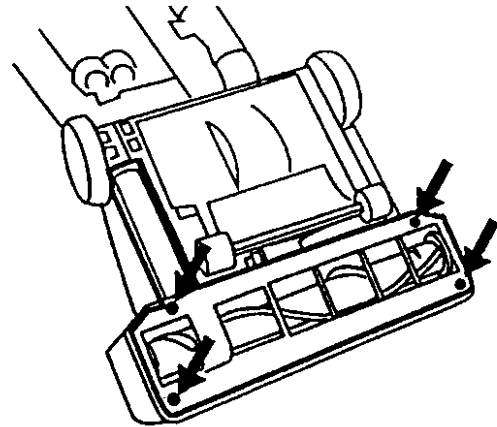

Fig. 1
1. Remove 4 screws and lift off bottom plate (Fig. 1).